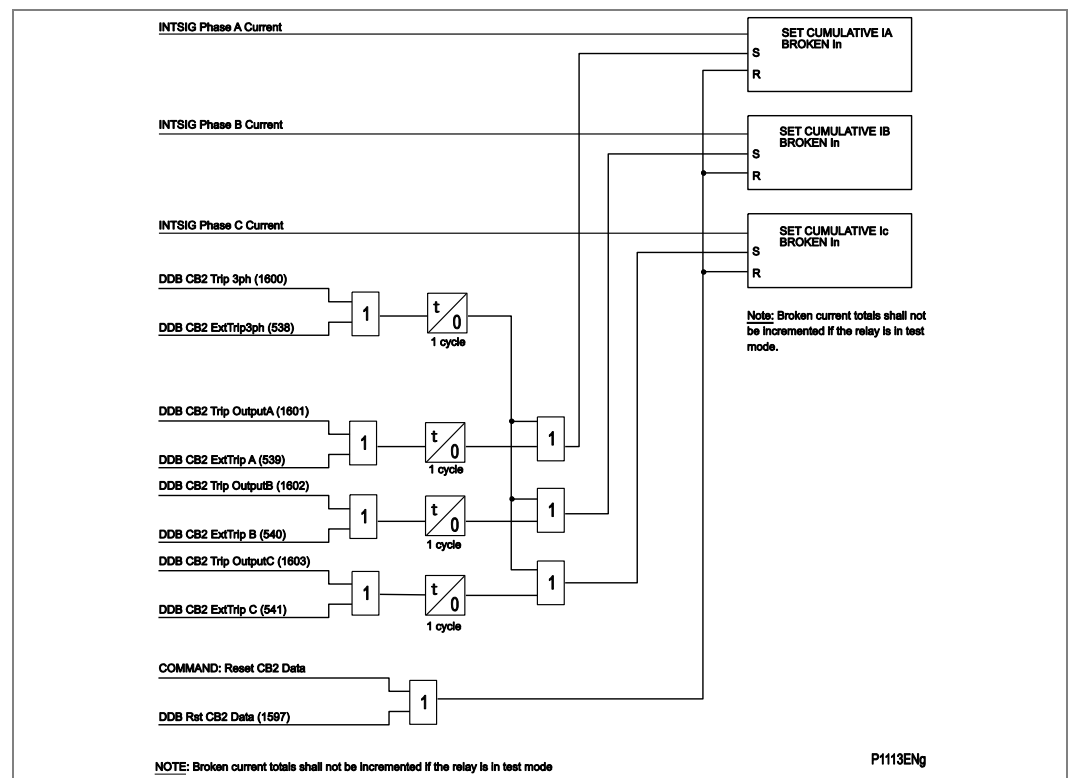

Figure 129 - CB2 condition monitoring – broken current
- Figure 129 - CB2 condition monitoring – broken current